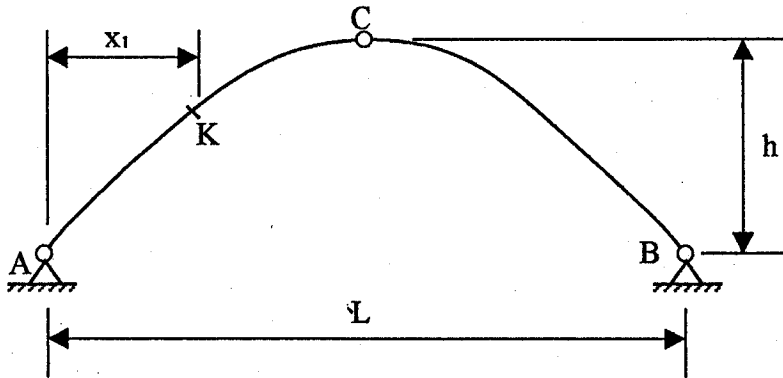

Fig. Q2
2. Draw the influence lines for bending moment, shear force, and normal thrust at the point K in the symmetrical three-hinged parabolic arch shown in Fig. Q2.